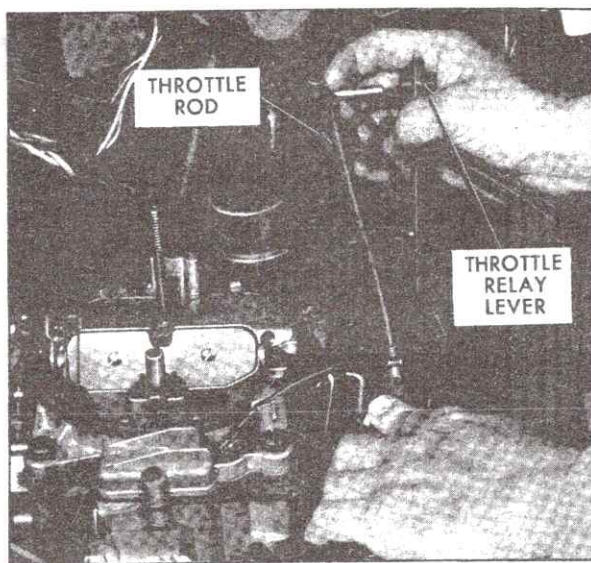

Fig. 6-108 Throttle Rod Adjustment except 693
6. Loosen lock nut and throttle rod end in either direction as necessary to allow free entry into bushing on relay lever, Fig. 6-108.